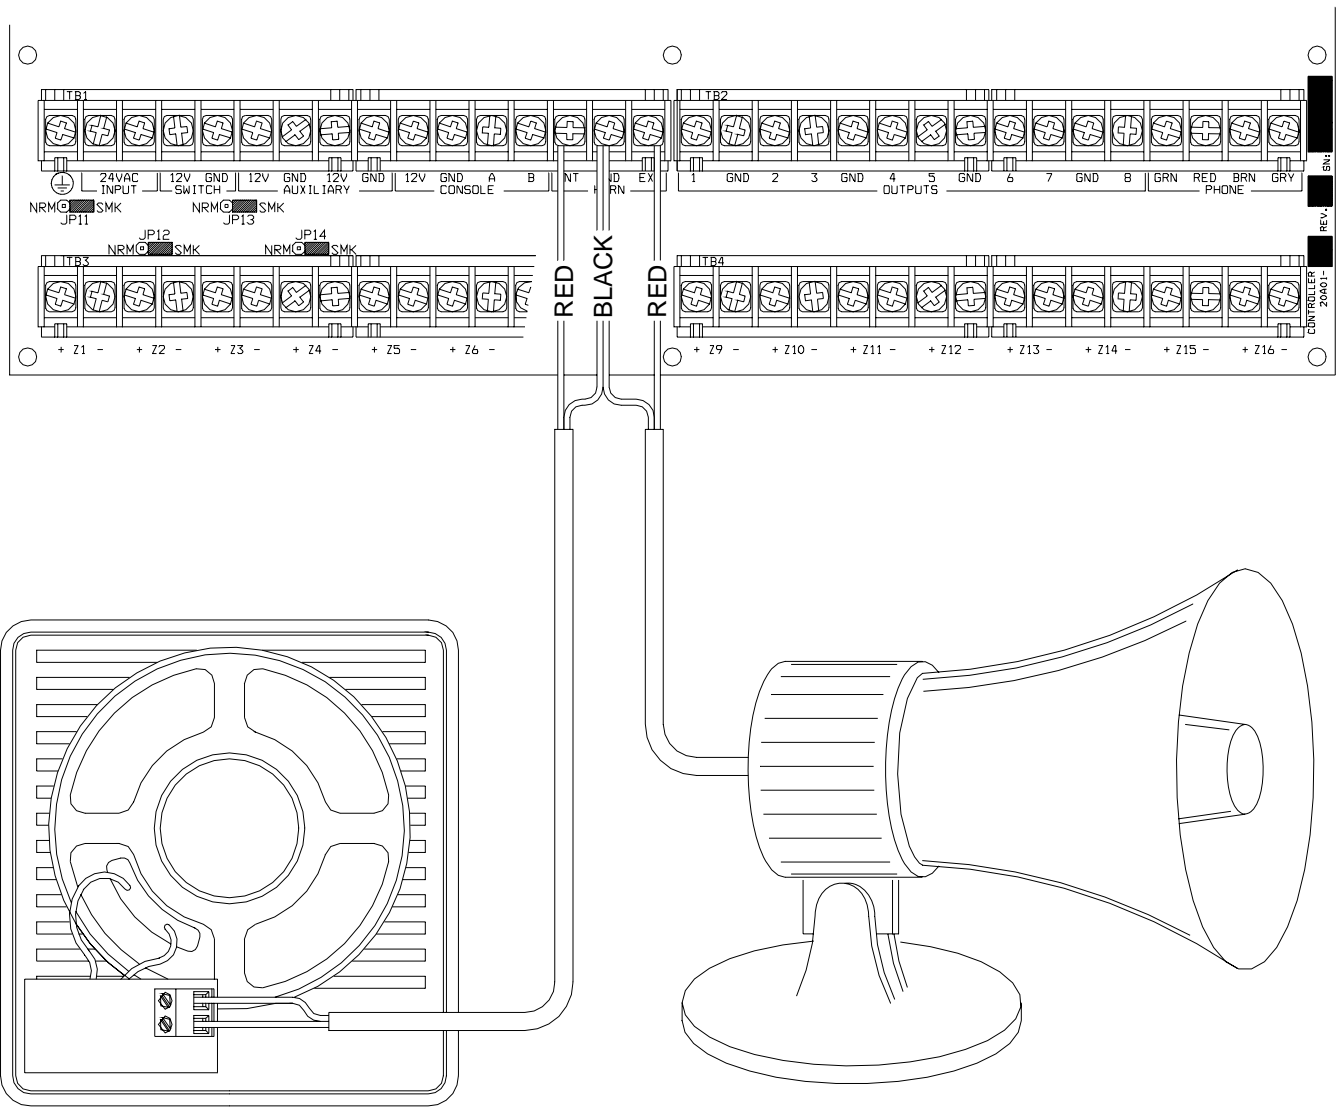

FIGURE 7 - SOUNDER CONNECTIONS
4. Refer to **FIGURE 7 (SOUNDER CONNECTION)** for connections.